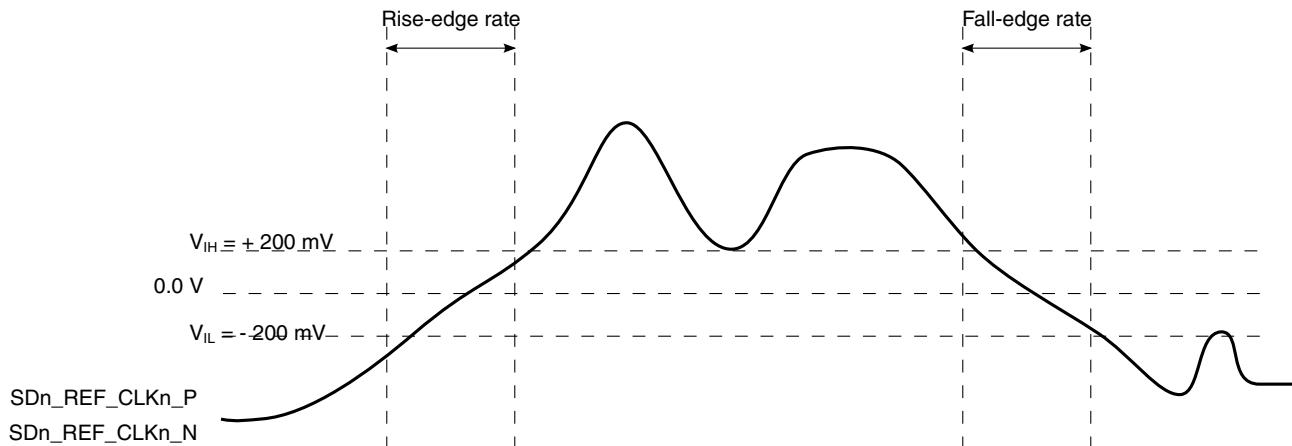

Figure 34. Differential measurement points for rise and fall time
- Measured from -200 mV to +200 mV on the differential waveform (derived from SD_n_REF_CLKn_P minus SD_n_REF_CLKn_N). The signal must be monotonic through the measurement region for rise and fall time. The 400 mV measurement window is centered on the differential zero crossing. See Figure 34.